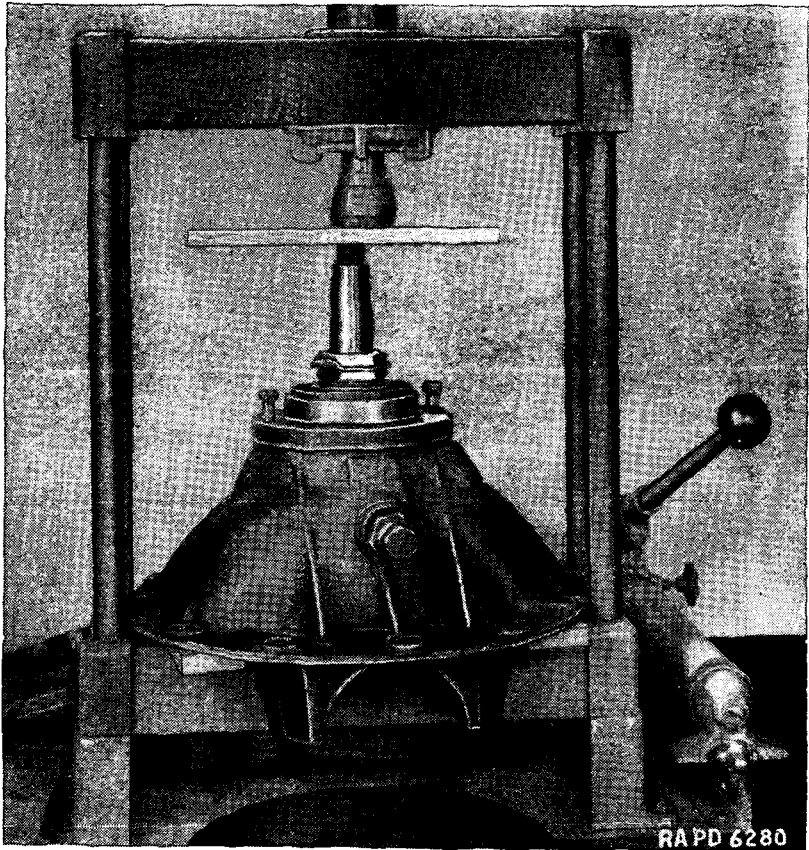

FIGURE 66.—Pressing rear axle drive pinion assembly in carrier.
(2) Install drive pinion assembly— $\frac{5}{8}$ -inch socket wrench. Replace shaft assembly into differential housing and bolt in place with six  $\frac{7}{16}$ -inch cap screws and lock washers (figs. 66 and 67).